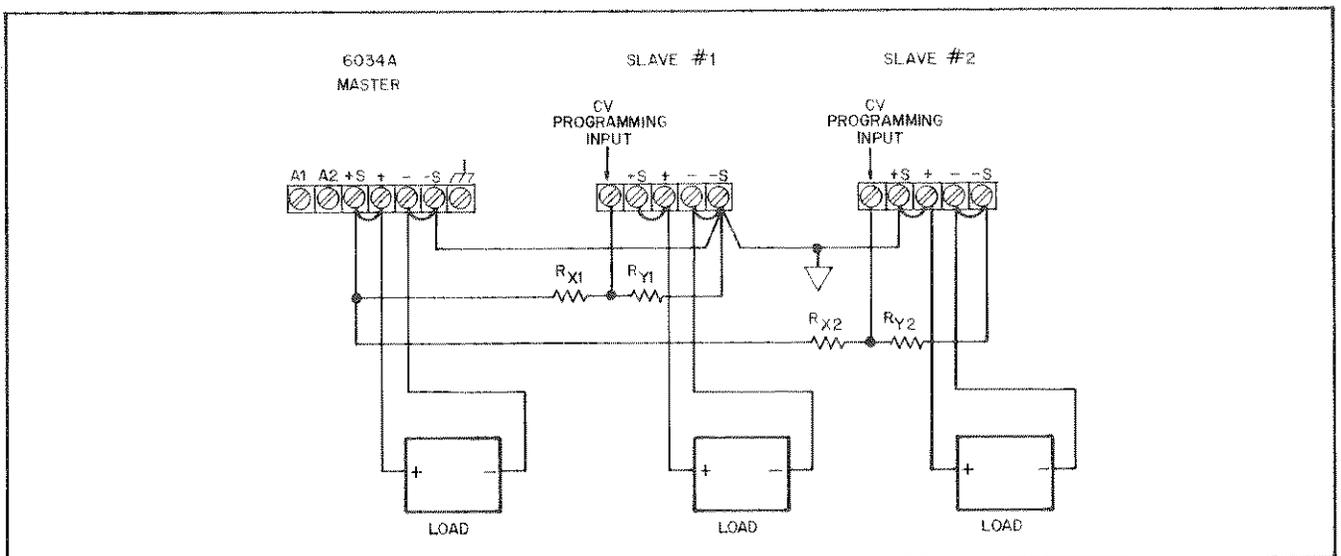

Figure 3-10. Auto-Tracking Operation, Positive and Negative Outputs
**3-54** Figure 3-10 shows the interconnections required to provide both positive and negative outputs from an auto-tracking combination. As can be seen, the only difference from standard auto-tracking operation is that the + Out terminal of slave #2 instead of the - Out terminal is connected to the common bus. There is no limit to the number of supplies that can be operated in either auto-tracking configuration, but the 6034A must be the master supply.
**3-59** For auto-tracking operation with both positive and negative outputs, as shown in Figure 3-10, the equation in Paragraph 3-55 is used to determine the values of  $R_X$  and  $R_Y$  for the slaves providing positive outputs, and the equation in Paragraph 3-45 is used to determine the values of  $R_X$  and  $R_Y$  for the slaves providing negative outputs.